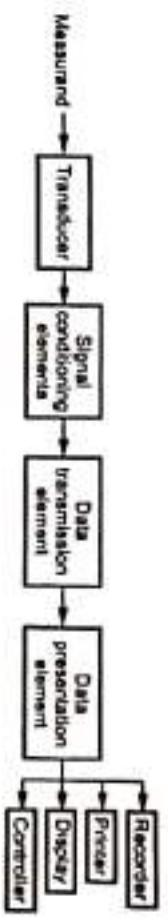

Fig. Q.1.1 Block diagram of an instrumentation system
**Ans. :** • Fig Q.1.1 shows the block diagram of a instrumentation system. It indicates the necessary elements and their functions in a general measuring system.